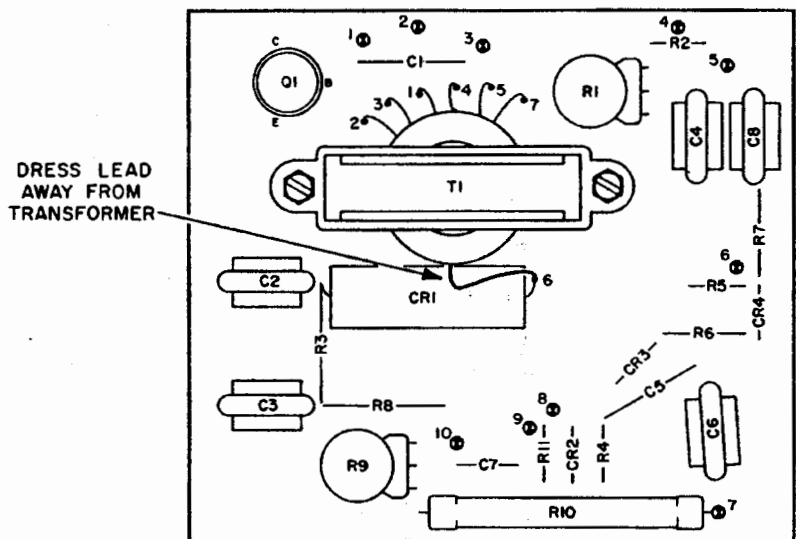

Figure 9. The A20A2 Assembly
16. Clean the underside of the power supply assembly. Before installation, make sure the output lead of the high voltage transformer comes straight out of the transformer. If it is left too close to the transformer, it will arc (see fig. 9).